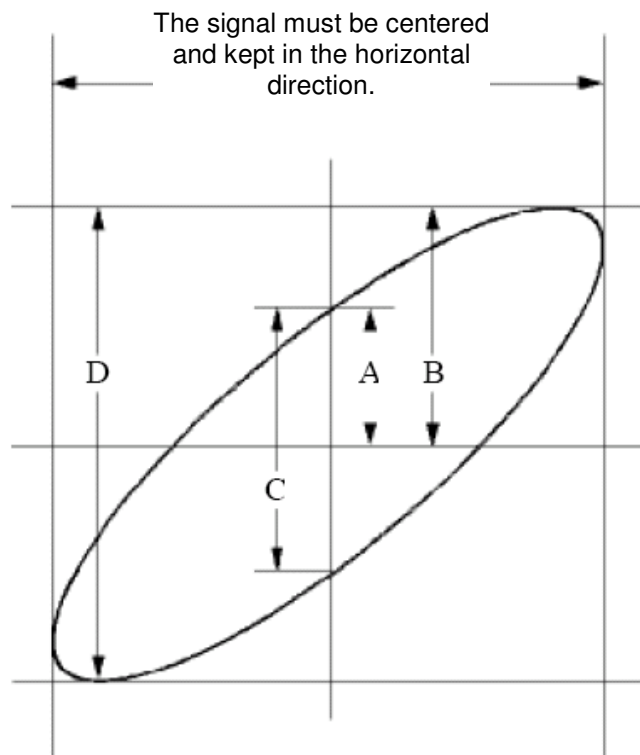

Fig. 109 Lissajous Graph
8. With the elliptical oscillogram method adopted, observe and calculate the phase difference (see Fig. 109).